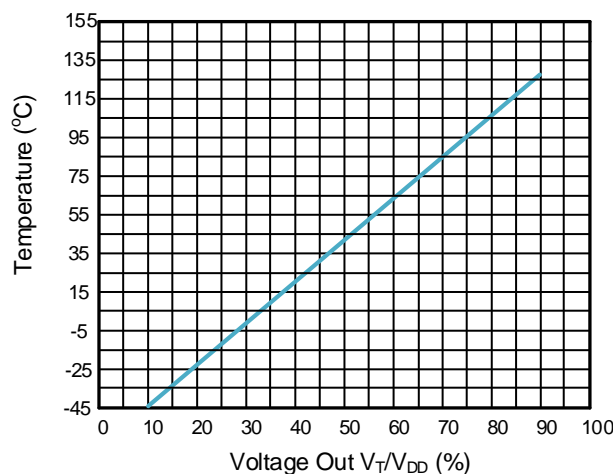
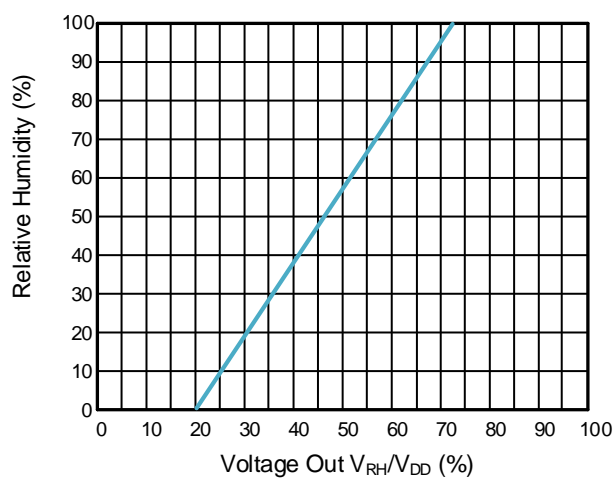

Figure 4. Relative Temperature vs. Output Analog Voltage
Figure 5. Relative Humidity vs. Output Analog Voltage
Equations (1), (2), and (3) provide the relationships between the physical values of temperature and humidity and the output voltage. Figure 4 and Figure 5 are the corresponding curve graphs.